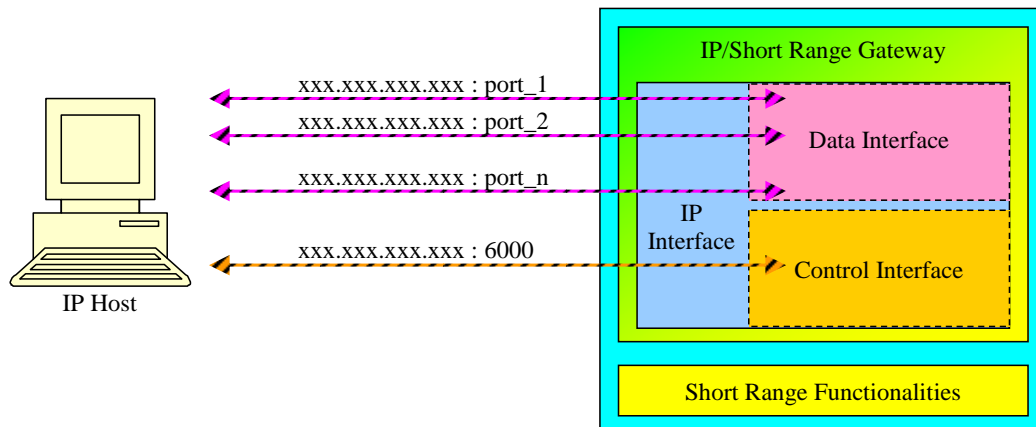

Figure 4.3 – Data and control channels/interfaces
2. Data Interface, covered by a variable range of ports that depends on the number of SR nodes joined to the SR network. This interface assigns to each node an exclusive TCP port (port_1, port_2, port_n in Figure 4.3). The IP Host is notified of the pair *TCPport-nodeID* via messages issued by Control Interface.